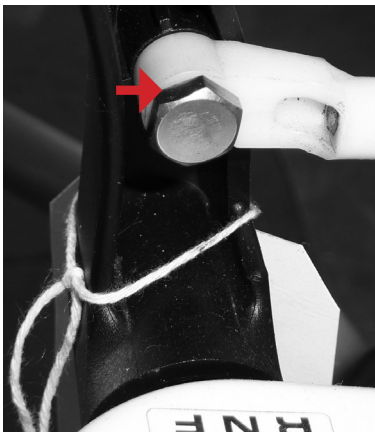

Figure 4
- Fig. 4: Remove shift rod from shift lever by removing bolt.